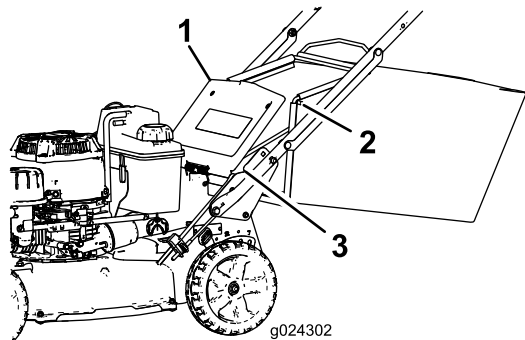

Figure 22
2. Raise and hold up the rear door (Figure 22).
4. Install the bag-rod ends into the notches at the base of the handle, and rock the bag back and forth to ensure that the bag-rod ends are seated at the bottom of both notches (Figure 22).
3. Remove the bag rod on the grass bag from the notches at the base of the handle (Figure 22).